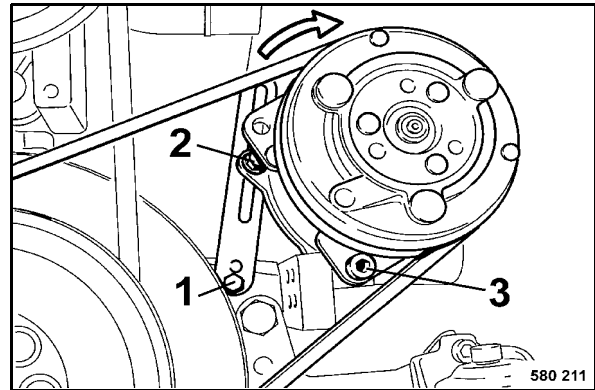

Fig. 137
- Slightly slacken fastening screws 1, 2 and 3 (Fig. 137).